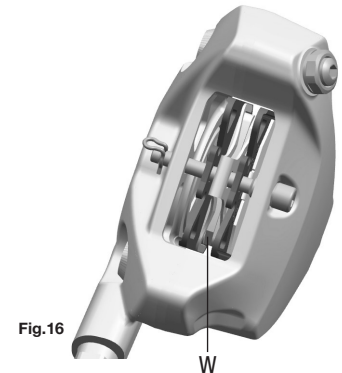

Fig.16
- Excessive wear of the brake pads, where the wear indicator on one or more of the pads is no longer visible (W - Fig.16)